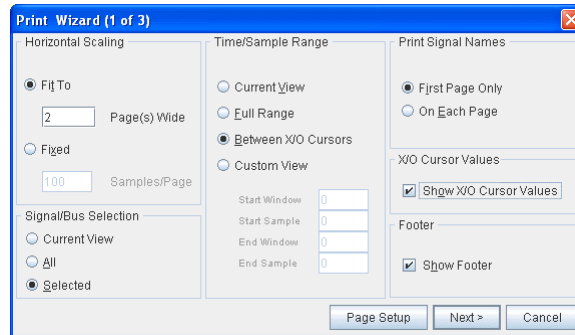
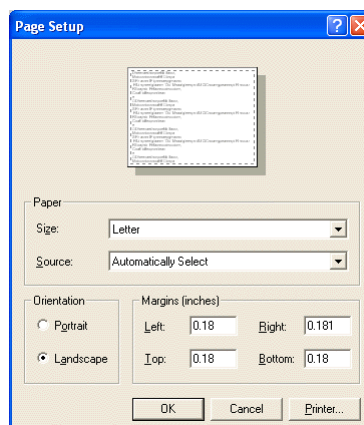

Figure 4-6: Print Wizard (1 of 3)
Figure 4-12: Page Setup Window
1. (1 of 3) is the Print options and settings window (Figure 4-6, page 4-9)
The first Print Wizard window (shown in Figure 4-6) is used to set up various waveform printing options. The following sections describe these waveform printing options in more detail.
The buttons at the bottom of the Print Wizard (1 of 3) window (Figure 4-6, page 4-9) are defined as follows:
- *Page Setup*: Opens the page setup window (refer to Figure 4-12, page 4-13)
The Page Setup window (shown in Figure 4-12) can be invoked either from the Print Wizard (1 of 3) window (Figure 4-6, page 4-9) or by using the **File** → **Page Setup** menu option.